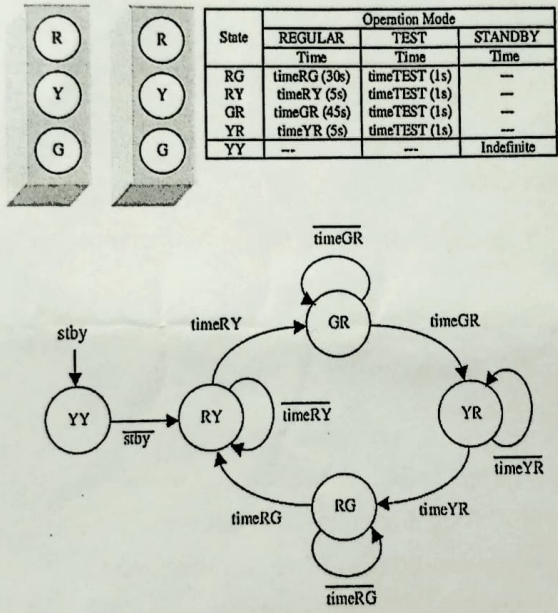

Fig.4. Traffic Light Controller
- 7.(a) Develop a VHDL code to model the given Traffic Light Controller in Fig.4.